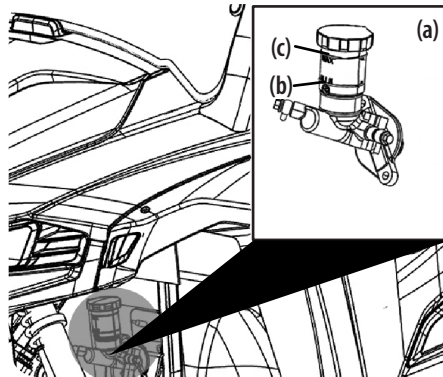

Figure 5-15
- Check to see that the brake fluid level of the brake fluid reservoir (a) is up to the MIN (b) level. See Figure 5-15.